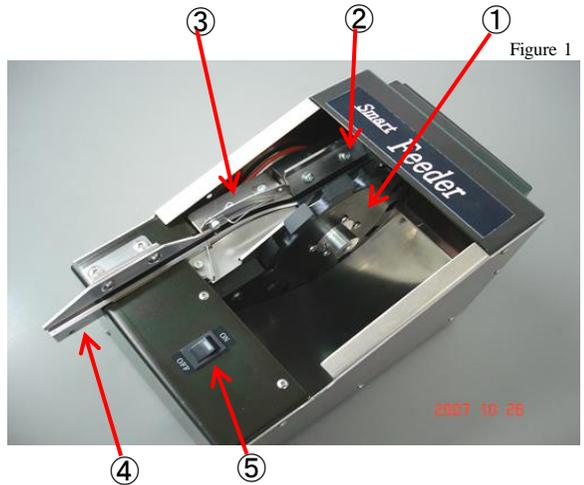
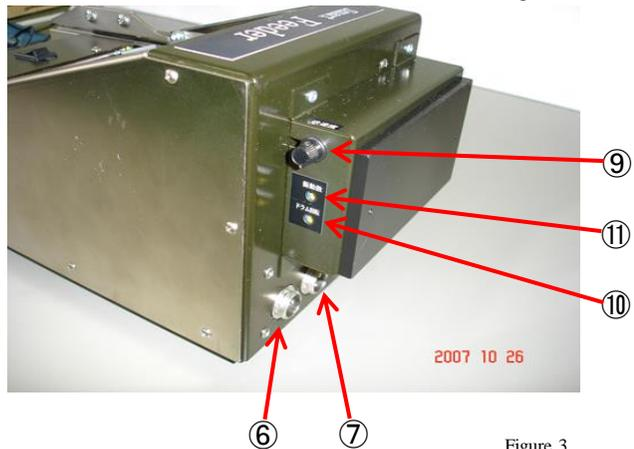

Figure 1
Figure 2
<p>Low oscillation at the vibrating part</p>	<p>Re-adjust the adjustment slots, as shown in Fig. 2, respectively. If the problem persists, foreign objects may be present in the gap between the drum guide base plate and vibrating part (pre-alignment part, alignment unit, and rail). Check the gap by inserting a 0.1- to 0.25-mm thickness gauge or a strip of copy paper into it for foreign objects and size. (See Fig. 11)</p> <p style="text-align: right;">Figure 11</p>
<p>Variations in drum rotation</p>	<ul style="list-style-type: none"> (1) Contamination, wearing down and looseness of the round belt (Belt replacement required) (2) Contamination of the grooves of the rotating pulley (Cleaning) (3) The gap between the drum guide base (see Fig. 1) and the drum is clogged with dirt or is narrow if the drum fails to rotate smoothly, with the round belt removed, when it is turned with a finger. (Cleaning and gap adjustment) (4) The hopper base plate is in contact with the drum. (Cleaning and gap adjustment) (5) The power switch must be turned off when a screw is engaged in the rotating drum. The drum is designed to recover from failures by manual inversion. Turn the reverse sensitivity adjustment slot (see Fig. 2) counterclockwise for adjustments because drum inversion may be disabled. (6) Screws are magnetized. Replace all screws in Smart Feeder with new ones. Defective screws may be magnetized if normal screw feeding is observed after screw replacement. Demagnetize it with the demagnetizer.